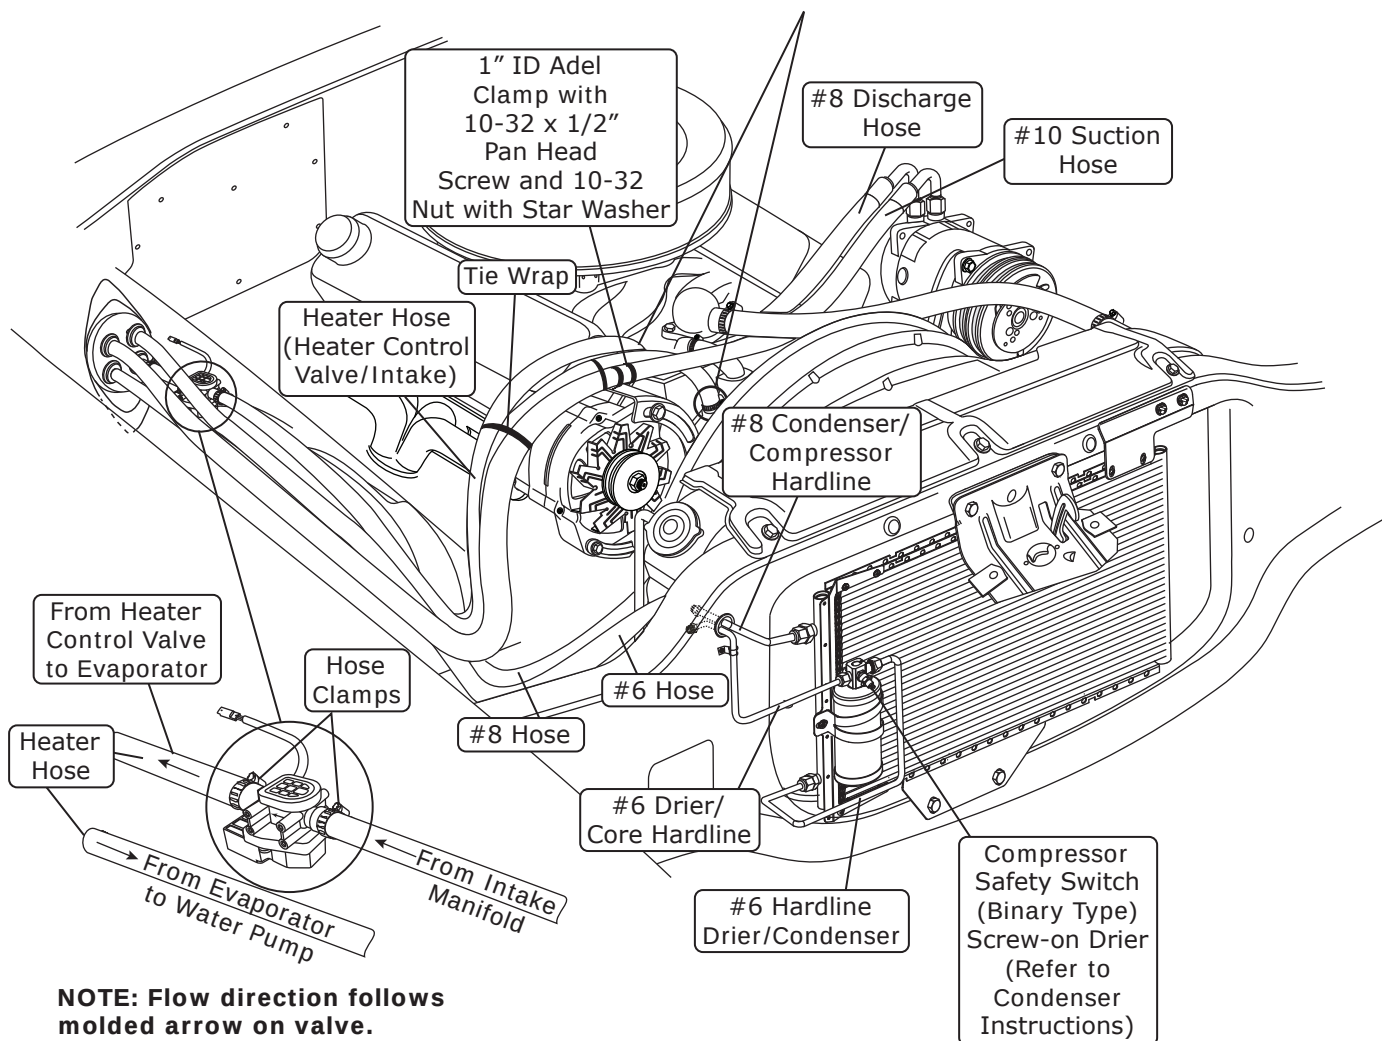

Figure 1
2. Route a piece of heater hose from the intake to the bottom heater fitting of the heater core as shown in Photo 2, Page 15, and Figure 1, below. **NOTE: Install heater control valve in line with intake manifold (pressure side) heater hose. Secure using hose clamps as shown in Figure 1, below. Also note proper flow direction.**